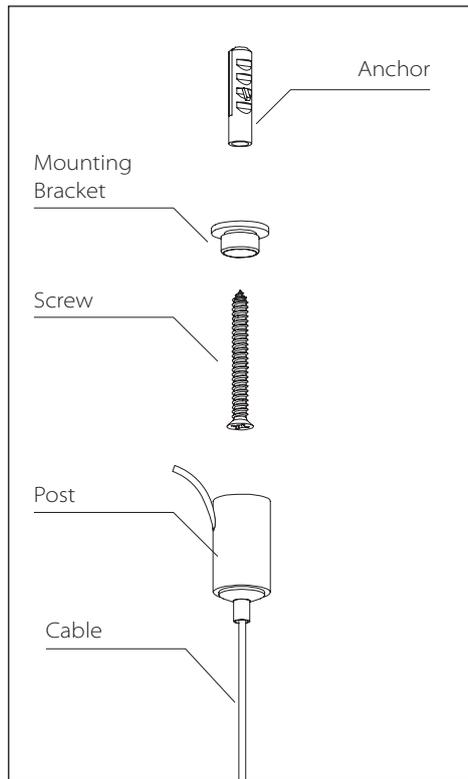

Fig. 1
3. Install the mounting brackets to the ceiling with anchors and screws, then screw the posts onto the mounting brackets, following Fig.1 and Fig.2. Adjust the steel cables to level the fixture. To shorten the cable, push the cable up; to lengthen, push in the plunger while pulling down on the cable, release the plunger to lock.
1. Make a 1" slice along the length of the cord's outer jacket (Fig. 1).
2. Carefully strip the outer jacket of the cord and keep the outer braided conductors intact (Fig. 1).